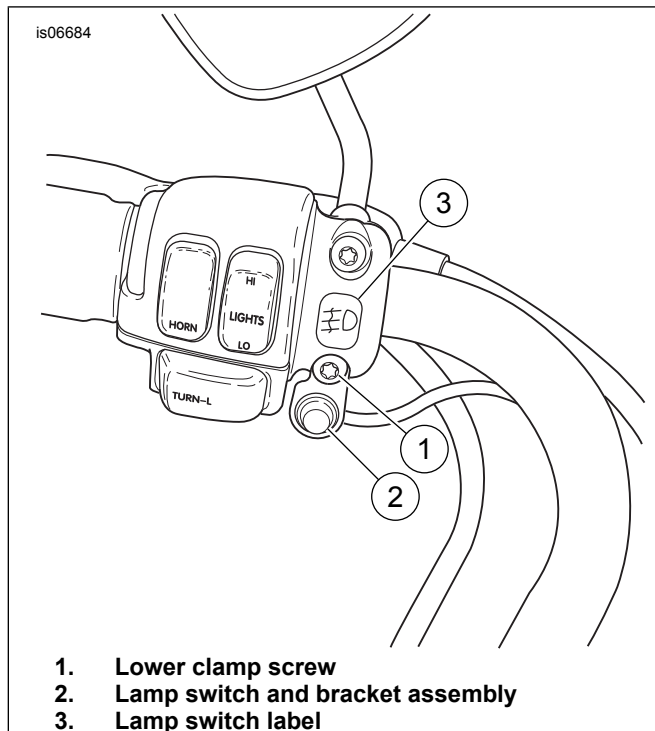

Figure 5. Install Lamp Switch (1996-later shown)
17. See Figure 5. Remove the lower screw (1) and washer from the clutch control clamp, and install the lamp switch and bracket assembly (2). Install the screw and washer and tighten to 7–9 N·m (60–80 in-lbs). **For International Applications:** Place the fog lamp switch label (3) on the clutch control clamp.